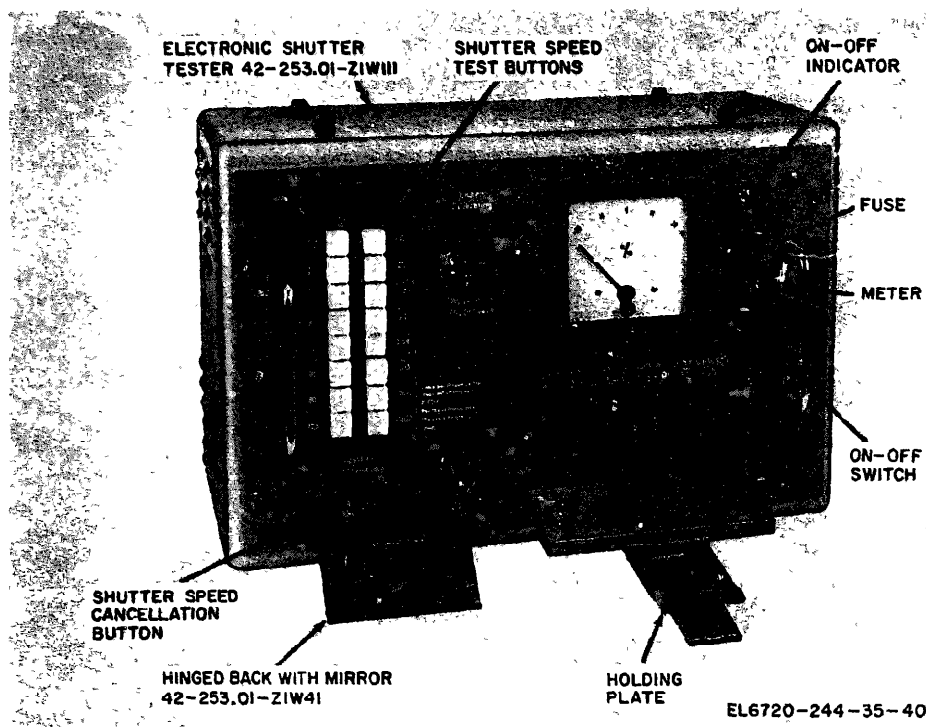

Figure 6-3. Hinged back with mirror 42-253.01-Z1W41 and electronic shutter tester 42-253.01-Z1W111.
- (1) Hinged back with mirror 42-253.01-Z1W41 (fig. 6-3).
(2) Electronic shutter tester 42-253.01-Z1W111 (fig 6-3)